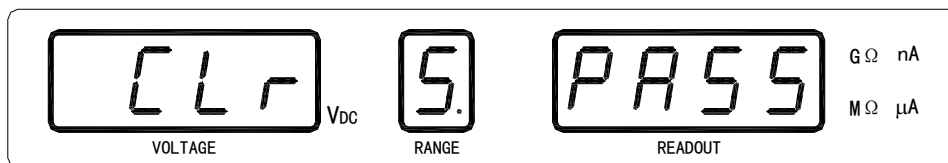

Figure 3-16 Open Correction Succeeded
- 5) If TH2683 passes the open correction for all measurement ranges, "PASS" message will be displayed for a second as shown in Figure 3-16. TH2683 returns back to the discharge status.